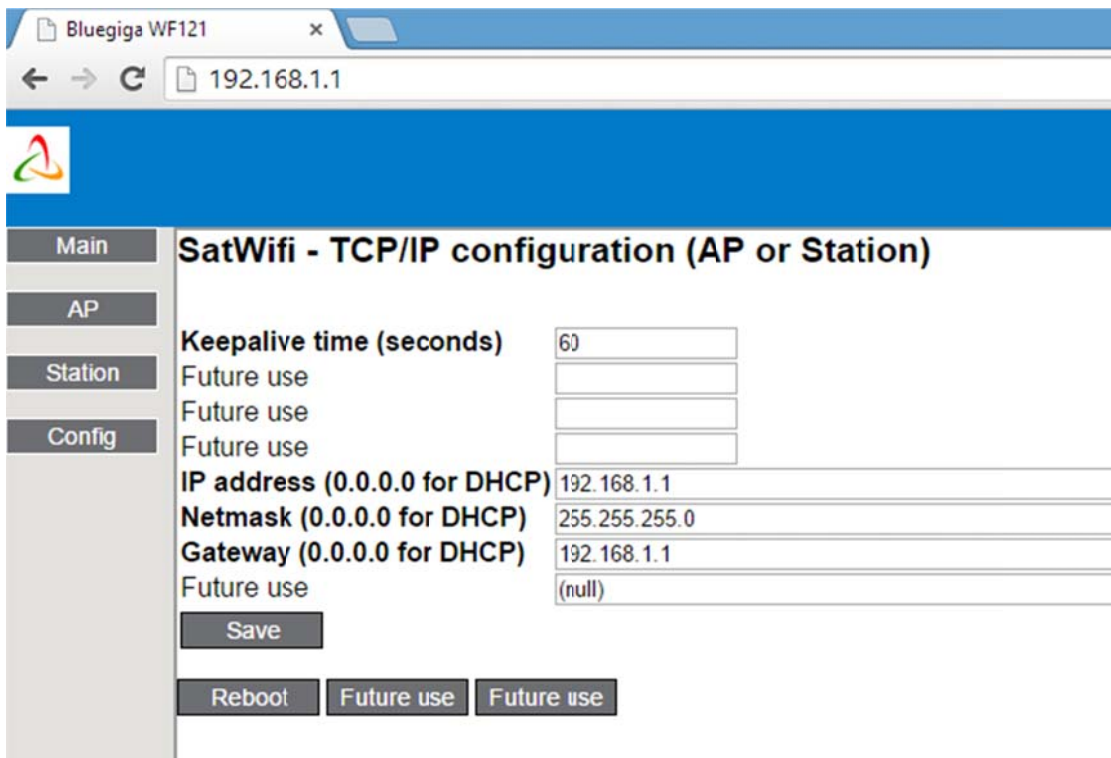

Figure 17 - SAT WIFI configuration Web Server - TCP/IP Configuration Page
- If the SAT WIFI is an Access Point, enter the parameters as in Figure 17.